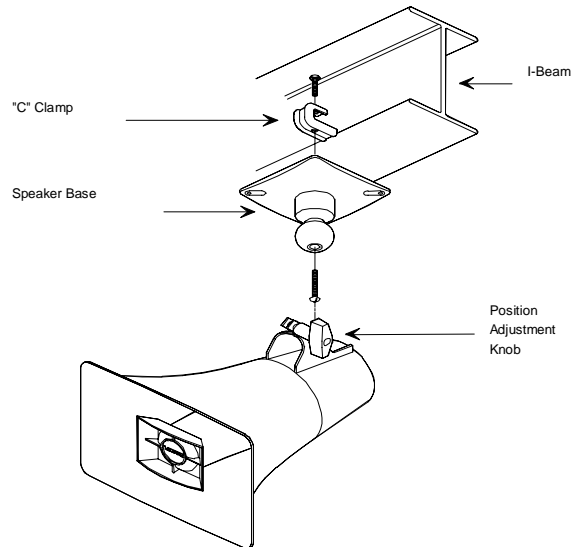

Figure 2 - Mounting to a Beam with a "C" Clamp
- A "C" clamp is provided with the ringer to allow mounting to a beam. Place the bolt through the hole in the bottom of the base to secure the "C" clamp to the beam. (See Figure 2).
The V-9945A may be rotated or moved up and down to obtain the desired position by loosening the knob (see Figures 2 and 3) at the bottom of the unit approximately 1 turn. Make required adjustment and re-tighten knob.